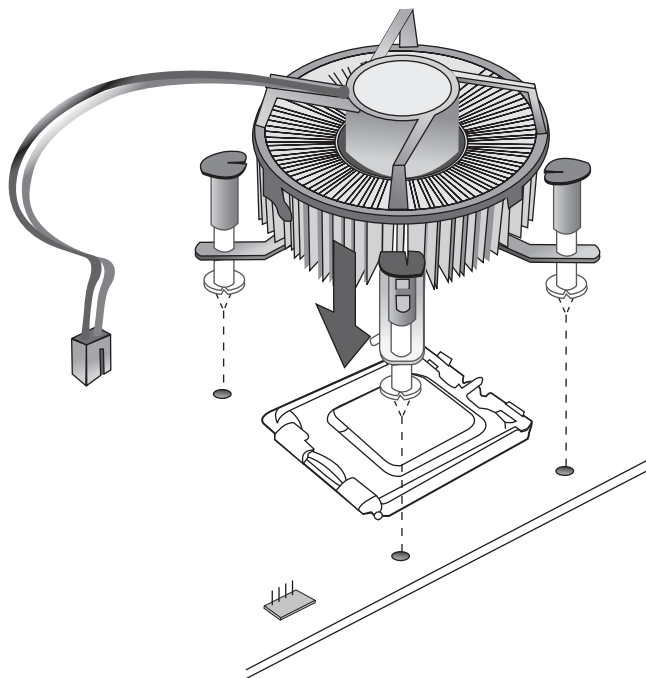
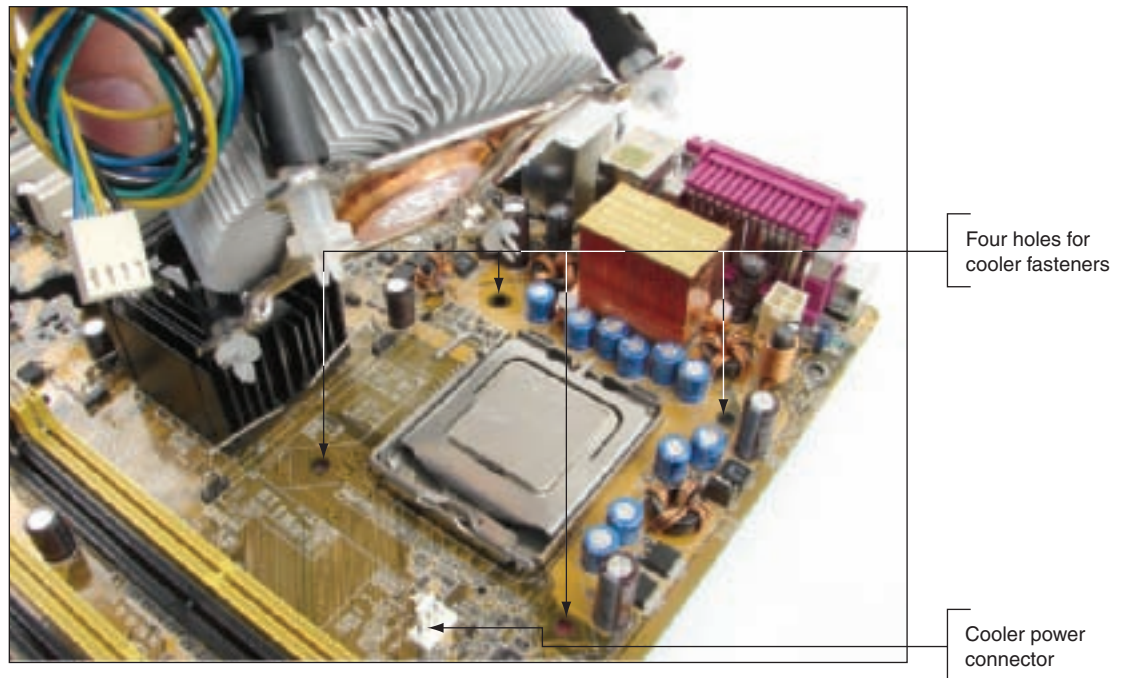

Figure 6-38 Four spacers on the cooler pop into each hole on the motherboard
Figure 6-39 The cooler is installed on the motherboard using four holes in the motherboard
6. Figure 6-38 shows how the cooler is aligned over the processor so that all four spacers fit into the four holes on the motherboard and the fan power cord connects to the power connector on the motherboard. Place the cooler over the four holes and push down on each fastener until you hear it pop into the hole (see Figure 6-39). (Later, if you need to remove the cooler, use a flathead screwdriver to turn each fastener counterclockwise to release it from the hole.)